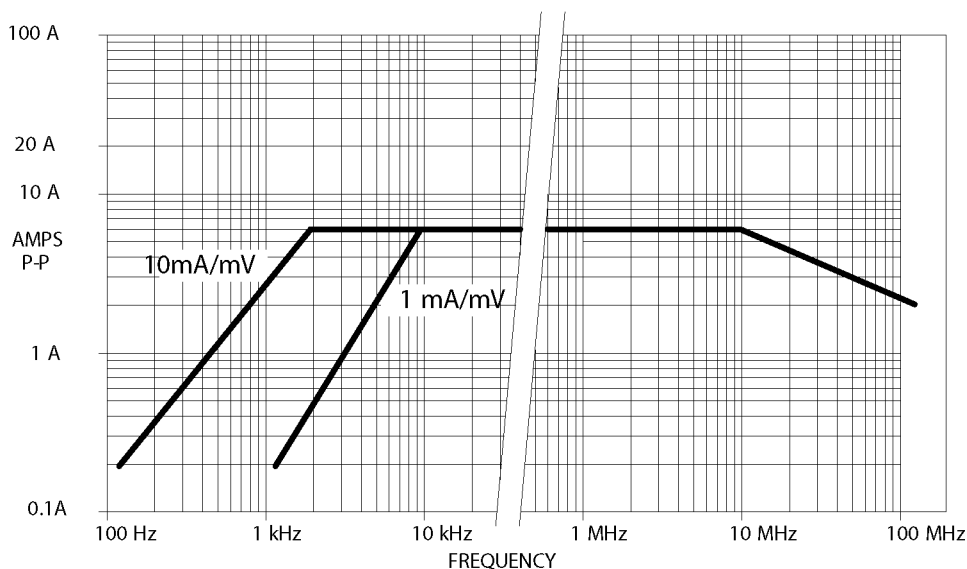

Figure 4: Probe and termination input current vs. frequency derating
Maximum continuous (CW) current 1 mA/mV 10 mA/mV	Refer to figure for frequency derating curves (See Figure 4.) 6 A _{p-p} sine wave between 10 kHz and 10 MHz 6 A _{p-p} sine wave between 3 kHz and 10 MHz